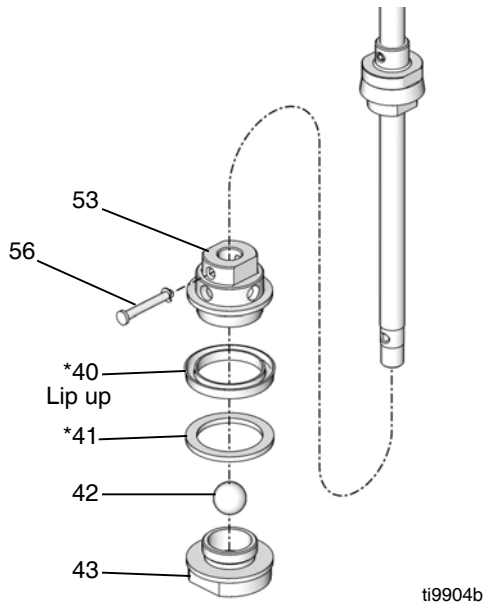

FIG. 20
9. Remove pin (56). Remove piston valve assembly. Unscrew piston valve (43) from piston housing (53). Remove wear ring (41\*), u-cup (40\*) and ball (42). Inspect all parts for damage. See FIG. 20.